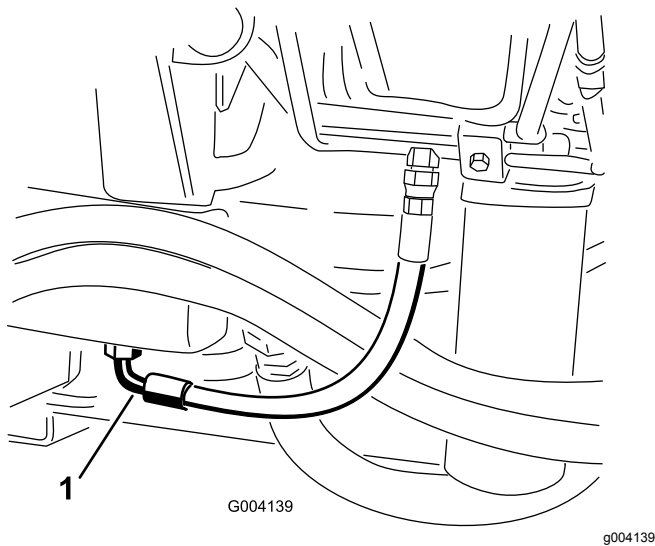

Figure 79
2. Place a large drain pan under the fitting secured to the bottom of the hydraulic-fluid reservoir (Figure 79).